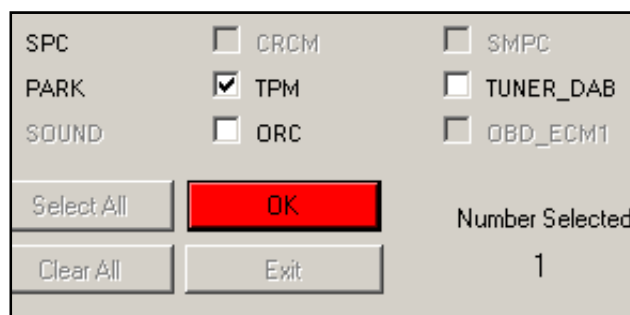

Figure 4
4. Select "TPM" from the list of available modules and click "OK" (refer to Figure 4).